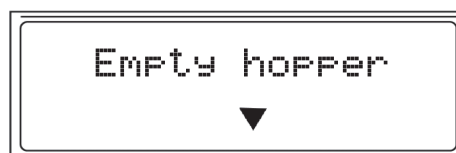

Fig. 18
- When the “Empty hopper” screen (*Fig. 18*) is displayed press the **Select** button.